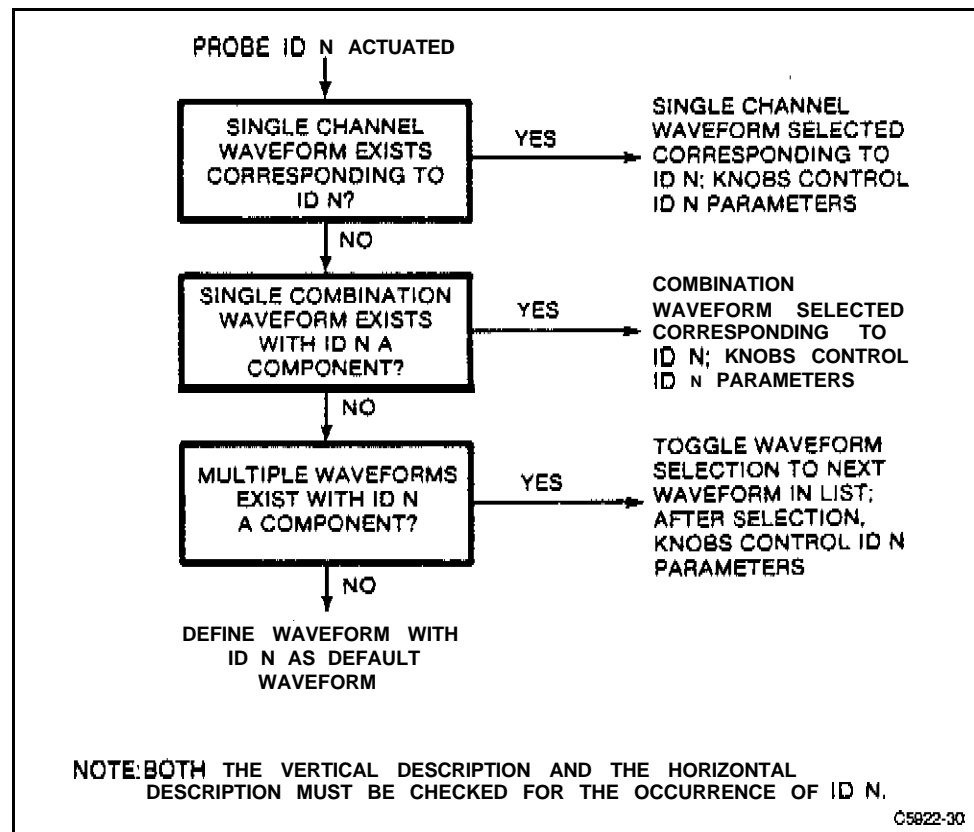

Figure 3-4 Sequence of decisions used to select a new waveform in response to probe ID button
2. If the Probe ID Function (in the Probes pop-up menu of the Utility major menu) is set to Waveform Select/New Wfm, a waveform will be selected. Figure 3-4 shows the sequence of decisions used to select a new waveform.
3. If the Probe ID Function is set to Wfm **Select/New Wfm & AutoSet**, then the decisions shown in Figure 3-4 will be made, and the resulting selected waveform is **autoset**.